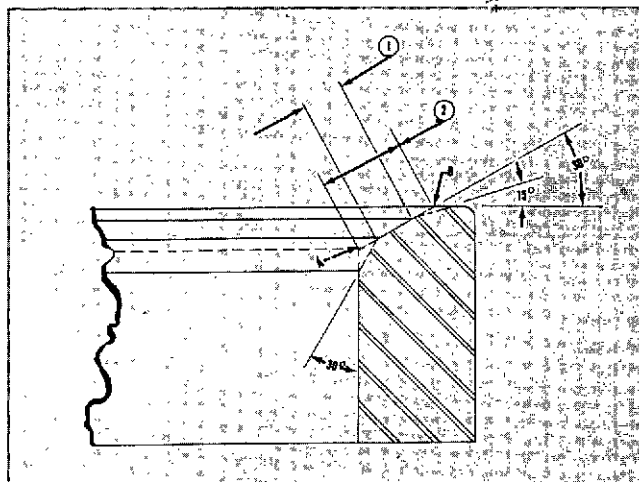

Fig. 2-3-4, N10228. Valve seat insert—cross sections
5. Check valve seat width which should be 1/16 to 1/8 inch [1.5875 to 3.1750 mm]. See (1, Fig. 2-3-4).